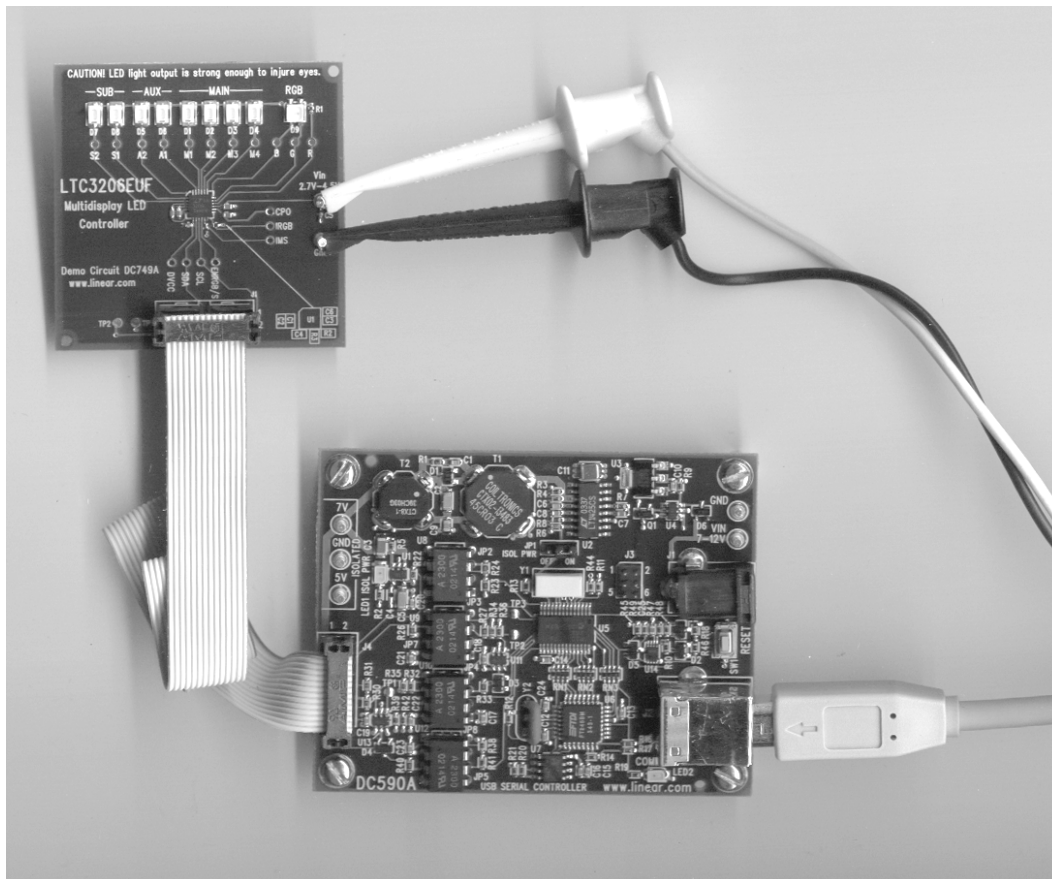

Figure 1. Proper Measurement Equipment Setup
Demonstration circuit 749 is easy to setup to evaluate the performance of the LTC3206. Refer to Figure 1 for the proper measurement equipment setup and follow the procedure below.
1. Connect DC749 to the DC590 USB Serial Controller using the supplied 14-conductor ribbon cable as shown in Figure 1. Refer to the DC590 Quick Start guide for software installation details.